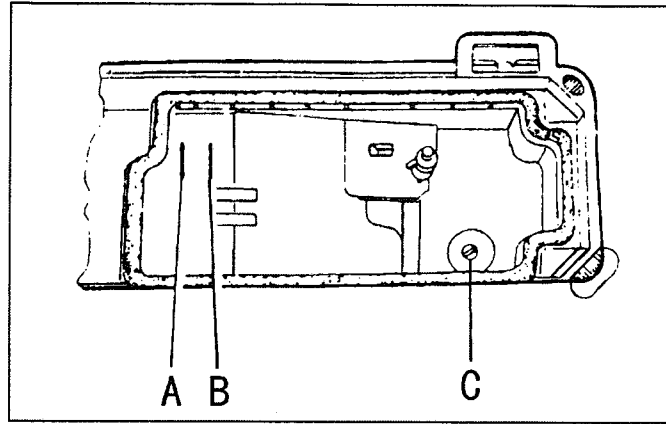

Fig. 4
5. PREPARATION AND LUBRICATION (Fig.4)